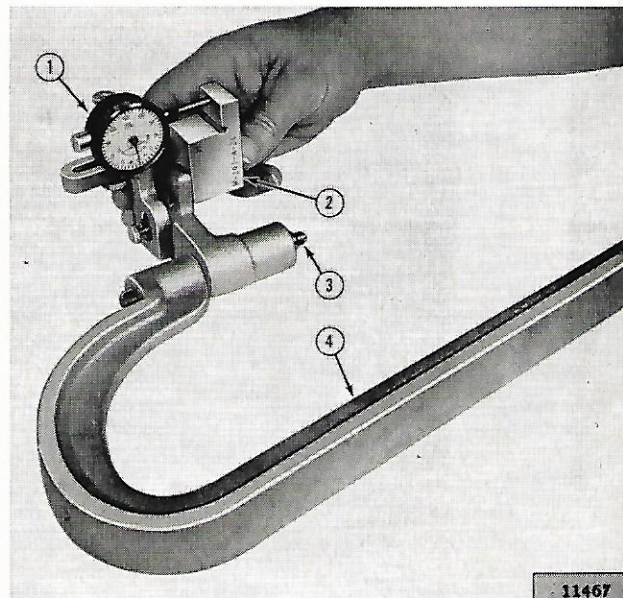

FIG. 11-14—SETTING PINION GEAR
pinion and the opposite side when setting the Model 70 axle pinion. See Fig. 11-14.
f. Place the gauge block against the machined surface of the dial indicator mount. See Fig. 11-14.